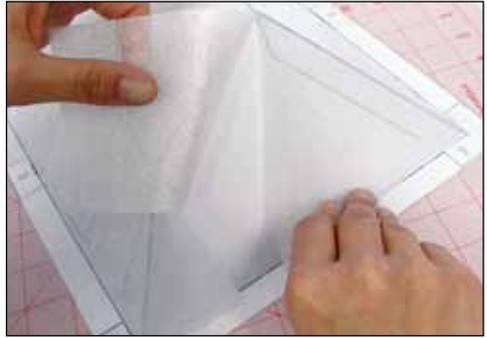

Figure 11
5. Fold down one side of the foam from Section C and cut off where it extends over the box flap. Repeat on the opposite side. Glue these two sides down to the box (Figure 11) – you will have to cover some of the foam from Section A.